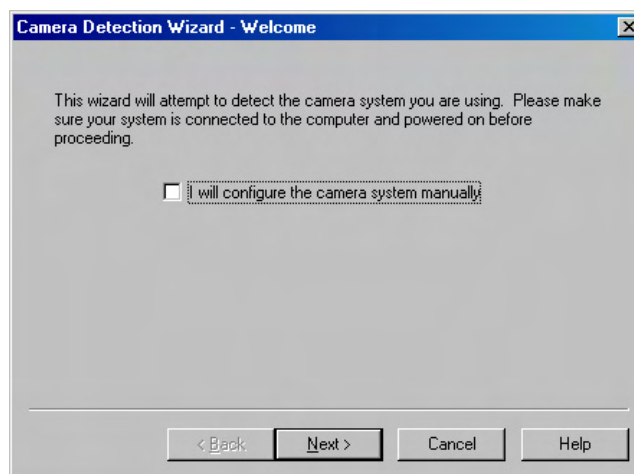

Figure 10. Camera Detection Wizard - Welcome dialog box
3. On the **Welcome** dialog (Figure 10), leave the checkbox unselected and click on **Next**.